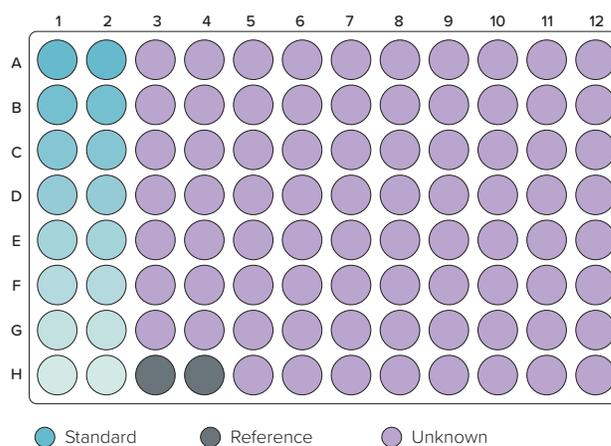

Figure 1: Example plate layout for a routine assay run in a 96-well microplate.
- 3 Transfer triplicates of the standards and the unknowns to a sample plate. It is recommended to organize samples in columns, from A–H. Fill at least one well with blank diluted matrix for reference subtraction during data analysis. An example plate map is shown in Figure 1.
- 2 Pipette standards, controls and samples into a black polypropylene microplate (see Figure 1 for a sample plate layout).
- 5 Set up a Basic Quantitation assay. An example plate map is shown in Figure 1. For details on how to set up an assay see the Octet Data Acquisition User Guide. The dynamic range of the assay can be tuned by changing the shake speed and the read time.